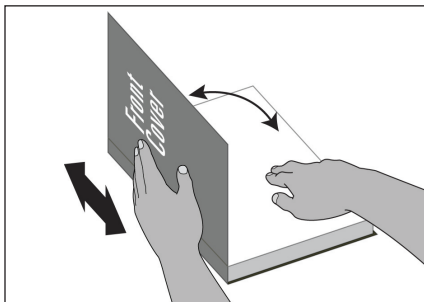

FIGURE 21
- 9a. With the back cover against a flat surface, put the document inside, with the back edge of the document spine aligning to the back score of the cover (figure 21).
- 10a. Fold your front cover tightly over the book block. Then, starting from the middle, rub back and forth to secure the cover to the adhesive strip beneath it. (figure 21).